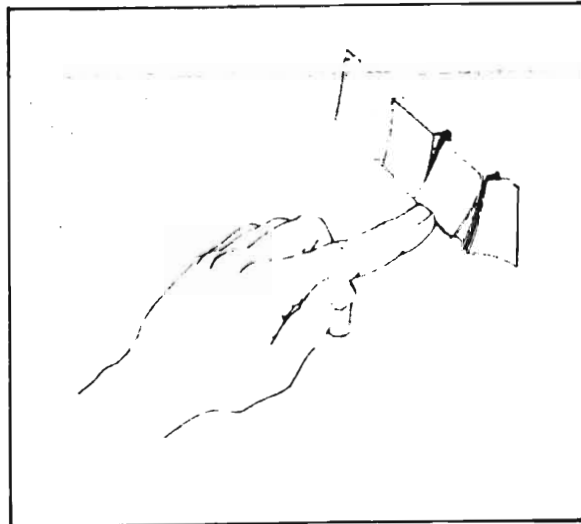

Figure 4
4. Replace the pushbutton lens by first positioning the tabs at the top of the lens into the top of the pushbutton and pressing the bottom of the lens into place as shown in Figure 4.